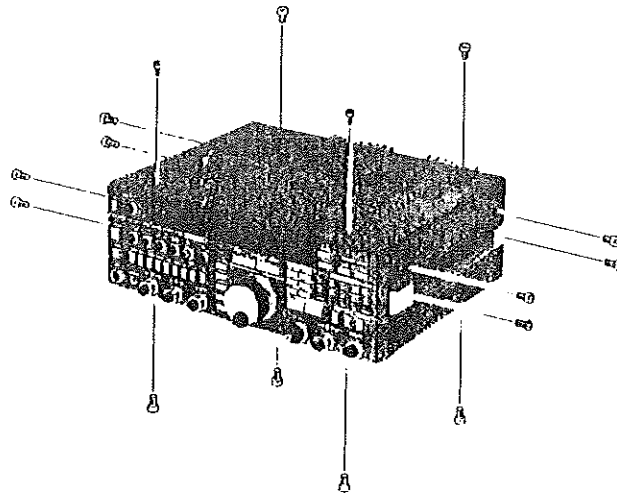

Figure 1
- 2) Referring to fig 1, remove the screws that secure the top and bottom covers of the transceiver. Remove the covers taking care not to strain the connection to the loud speaker, which should be unplugged from the RX unit pcb at the side of the transceiver. Store the covers where they will not be damaged.